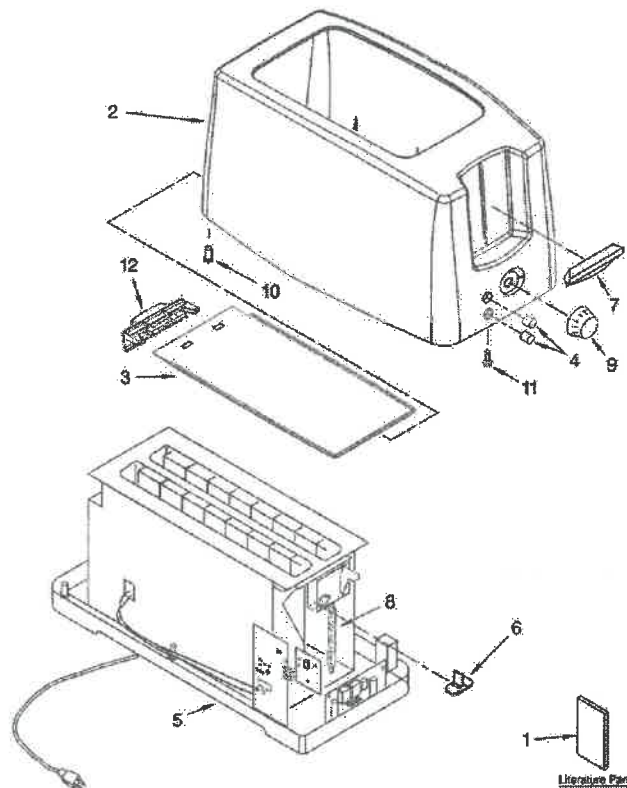

Figure 2: bread toaster
- Q.4 Develop a close loop control model of a bread toaster as shown in figure 2 where the function is to automatically dispense the bread based on the user requirement. (2.5+2.5+2.5+2.5 marks)